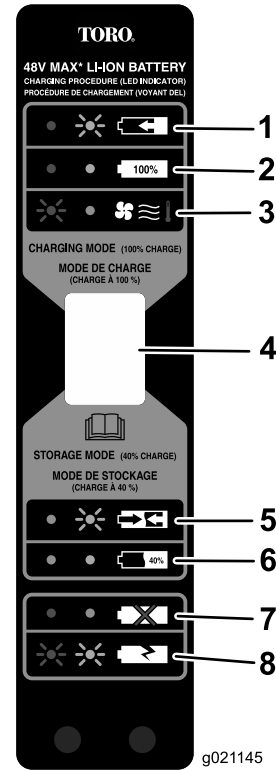

Figure 24
5. Refer to Figure 24 to interpret the LED indicators on the battery charger.
Use storage mode (Figure 24) when the battery will not be used for 1 month or longer.
4. When the battery is ready for storage (Figure 24, item 6.), remove the battery from the charger.